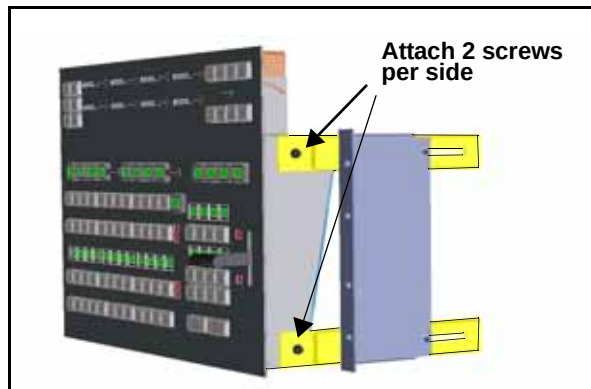

Figure 2-13. Attaching the Rack-Mount Bracket
To install the main control panel and the optional audio control panel in a rack, use the adjustable left and right-side frame mounting brackets that are provided. The brackets are designed so that you can angle the panels either upward or downward, according to your needs. (See Figure 2-13.) If you are using an audio control panel, attach and connect the audio panel to the main control panel frame before you attach the brackets (see “Connecting the Main Panel and Optional Audio Panel” on page 21).
6. Attach the mounting brackets to the sides of the main control panel using the screws provided (see Figure 2-13).